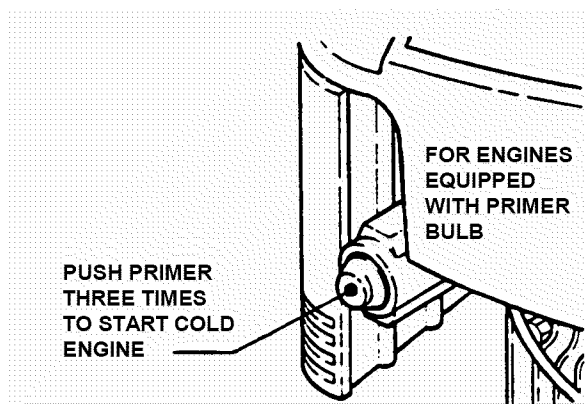

FIGURE 2.3
1. Push primer bulb three times to start a cold engine. **NOTE: Primer should not be required to restart a hot engine.** See Figure 2.3.